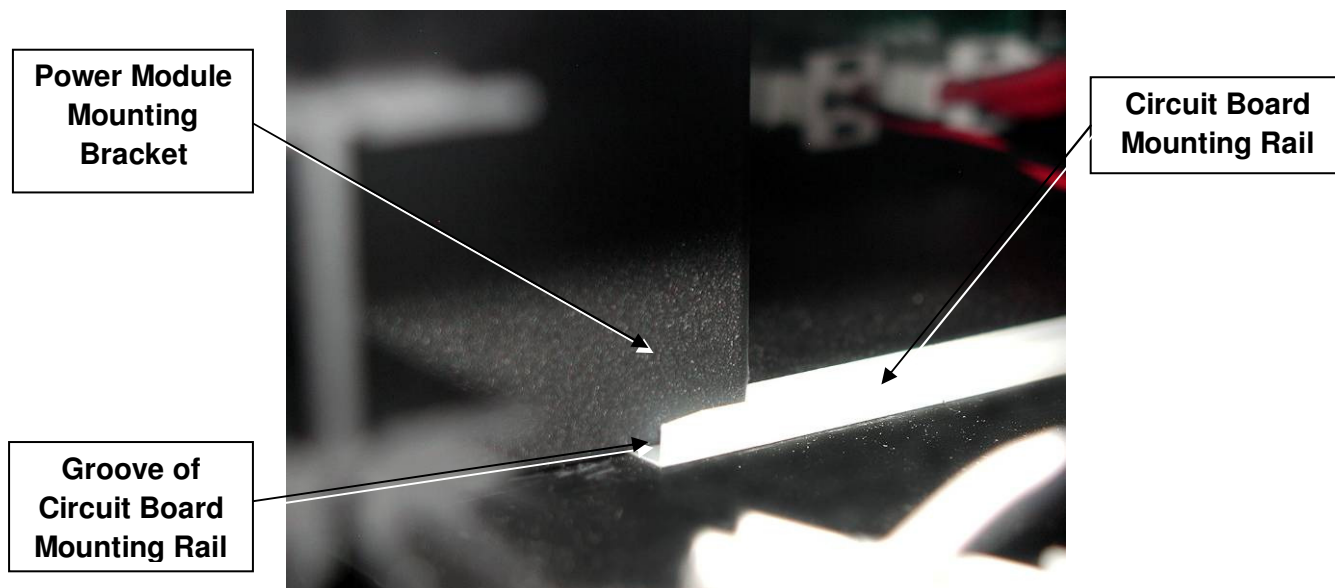

Figure 16: Reinstalling the Power Module
- Insert the replacement Power Inverter Module into the housing by engaging it into the groove of the guide rail on the bottom of the compartment, see Figure 16.